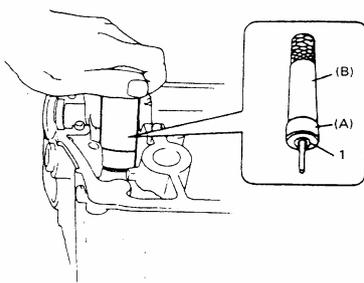

Fig. 4-121
2) Install the new valve oil seal on valve guide as shown in Fig. 4-121.